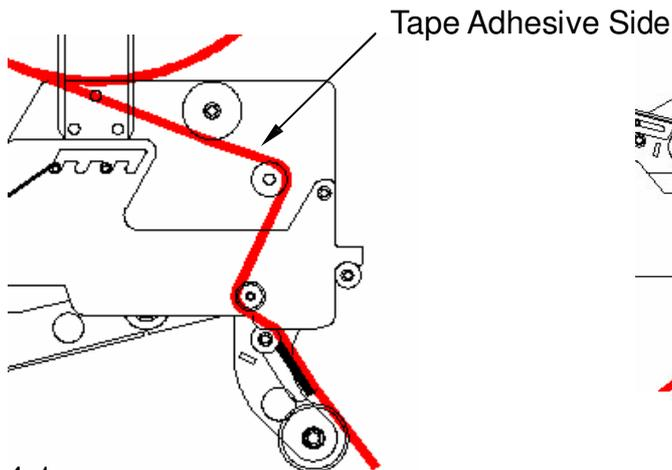

Figure 4-1
2. Adhere the guide plate to the tape, as shown in Figure 4-1.